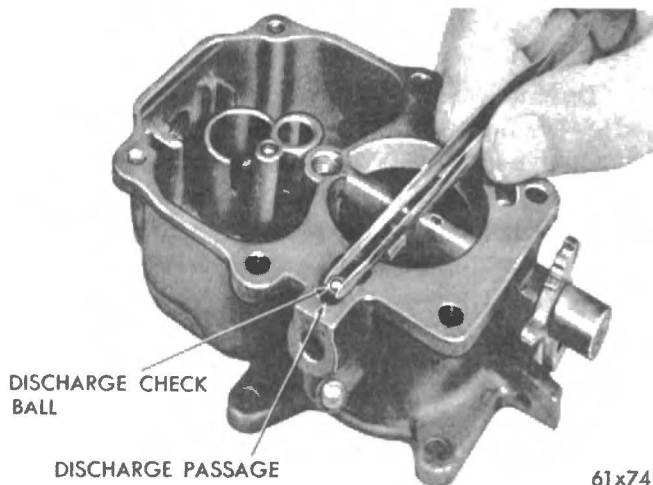

Fig. 9 - Installing Accelerator Pump Discharge Check Ball.
(1) Install the accelerator pump discharge and intake check balls in their respective passages, as shown in Fig. 9.